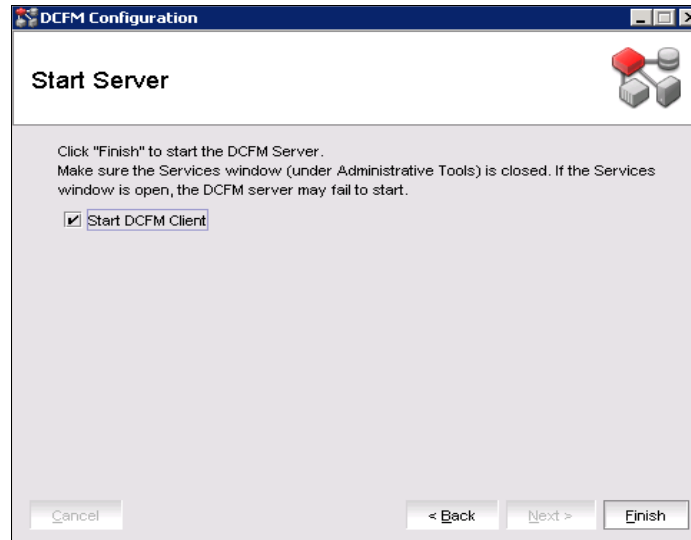

Figure 9-8 Start Server/Client dialog box
16. Select the Start Client check box on the Start Server panel (see Figure 9-8).